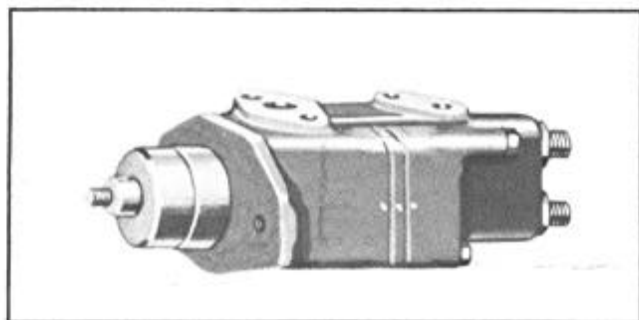

FIGURE 7
3. Remove the two screws (8) attaching the reservoir to pump manifold (7/16" cap screws) and remove reservoir.
4. Remove the reservoir base gasket (10) and spacer.
5. Remove the four screws (11) attaching the pump manifold (12) to the body and cover (9/16" cap screws).
6. Mark pump cover (33), rotor ring (21) and pump body (18) lightly with a prick punch to insure proper alignment on assembly, Figure 7.
11. Install rotor ring (21) onto the dowel pins and over the rotor.
NOTE: ARROWS ON ROTOR RING (21) MUST POINT TO DIRECTION OF PUMP ROTATION. CHECK ALIGNING MARKS MADE AT DISASSEMBLY, FIGURE 7.